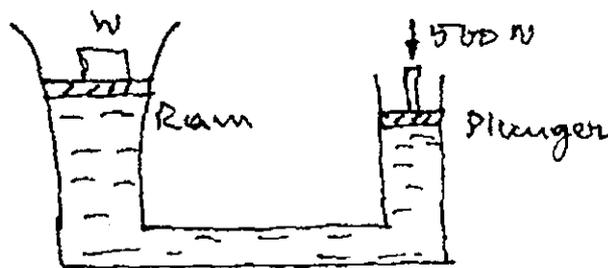

Fig. 3
- (b) (i) A solid shaft 5 m long is subjected to a torque so that the maximum shear stress developed is 80 MPa and the twist of the shaft is 4° . Given $G = 85 \text{ GPa}$ find the diameter and the torque developed in the shaft. If it is running at 100 rpm what is the power transmitted? (8)
- (ii) A close coiled helical spring is having stiffness of 200 N/cm and shear stress is limited to 8000 N/cm^2 under a load of 500 N. The diameter of the coil is ten times the diameter of wire. $G = 85 \text{ GPa}$. Compute the wire diameter, coil diameter and number of turns. Also find the deflection of the spring. (8)
13. (a) (i) A hydraulic press shown in Fig. 3 has a ram of 30 cm diameter and plunger of 4.5 cm diameter. Find the weight lifted by hydraulic press when the force applied in the plunger is 500 N. If the weight to be lifted is 30 kN what is the force required at the plunger. (6)